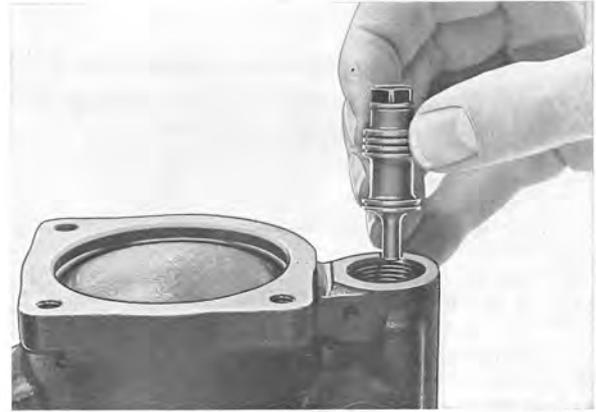

Fig. 6-97. Installing control valve
12. Fit the control valve piston (Fig. 6-97). Install the spring (26), packing (24) and plug (23).